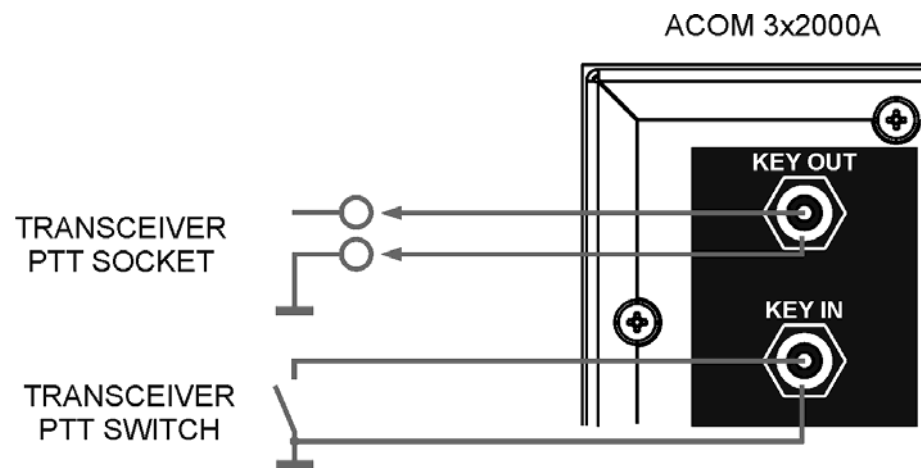

Fig.2-3 Splitter / combiner KEY OUT Connection in series with the transceiver PTT switch
- F) Connect the supplied 3 m RCA cable, or the the same color plugs of the paired 3 m RCA cable from the splitter / combiner KEY OUT jack to the transceiver input that disables the transmission while not connected to the ground. Transceiver producers give different names to this input and they are for instance TX-INHIBIT, MUTE, LINEAR, etc. Check your transceiver's manual. If your transceiver does not have such input, we recommend connecting this cable in place of transceiver PTT switch as shown on fig. 2-3 and use the transceiver in PTT mode only.
- G) If you have connected the KEY OUT jack according to fig .2-3, then disconnect the PTT switch from the transceiver and connect it to the KEY IN jack as shown on fig.2-3. Otherwise connect the supplied 3 m RCA cable from the transceiver socket providing "ground on transmit" to the splitter / combiner KEY IN jack. Transceiver producers give different names to this output and they are for instance TX-GND, SEND, T/R-LINE, AMPL, etc. Some transceivers require that "ground on transmit" is implemented via a software command, or by changing the setting of a switch on the rear panel, or interior of the transceiver. Check your transceiver's manual.